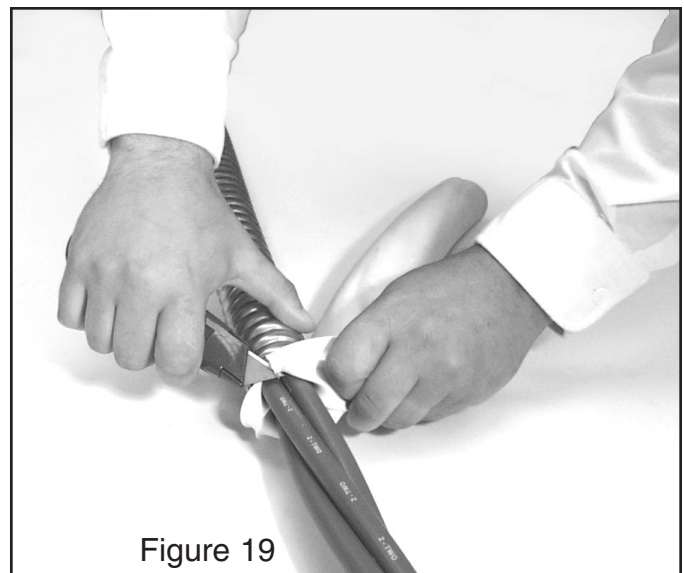

Figure 19
3. Pull inner jacket up at end of longitudinal cut while cutting in a circular manner. Pull off inner jacket. Inspect insulation for any damage. (Figure 19)